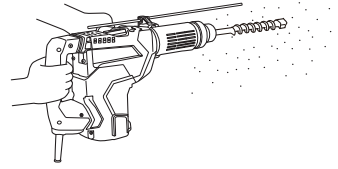

Fig. 7
1. How to drill holes (**Fig. 7**)